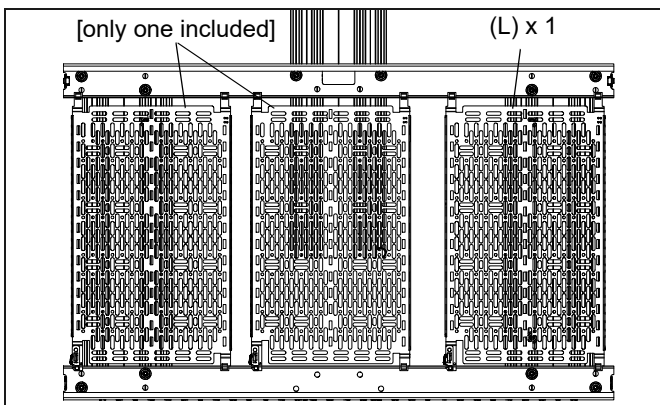

Figure 17
NOTE: Up to three storage panels (L) can be used simultaneously (only one included). (See Figure 17)